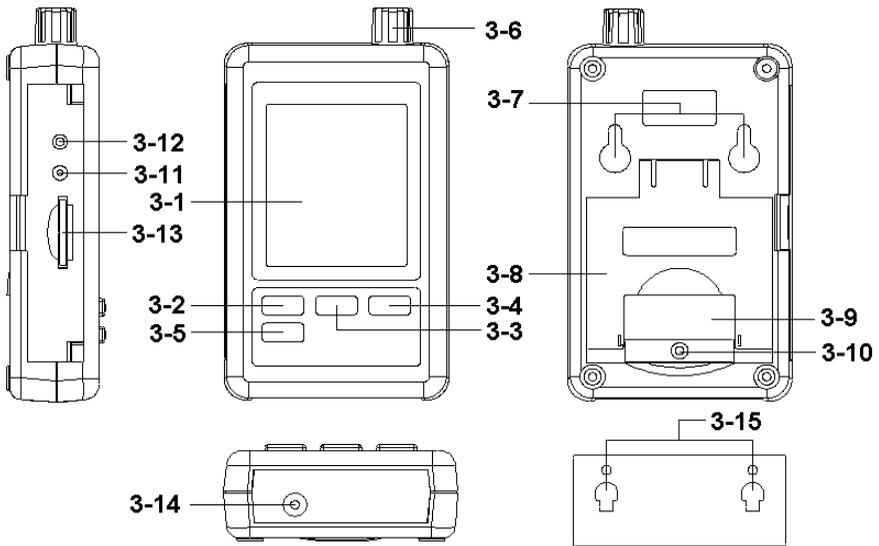

Fig. 1
- \* Loose the " Screw of the battery cover " ( 3-10, Fig. 1 ) and take away the " Battery Cover " ( 3-9, Fig. 1 ) from the meter.
- 2) The " Display " ( 3-1, Fig. 1 ) will show both the Humidity, Temperature and Barometer value that sensing from Humidity/Temp./Barometer sensor " ( 3-6, Fig. 1 ).
Prepare a " SD memory card " ( 1 GB to 16 GB, optional ), insert the SD card into the " SD card socket " ( 3-13, Fig. 1 ) with the correct direction exactly.
Press the " Logger button ( 3-2, Fig. 1 ) > 2 seconds continuously, until the Display show the indicator " DATALOGGER ", release the " Logger Button " ( 3-2, Fig. 1 ), then the measuring data along the time information will be saved into the memory circuit.
During execute the Datalogger function ( Display show the " Datalogger " indicator ), press the " Logger button " ( 3-2, Fig. 1 ) > 2 seconds continuously, until the Display indicator " DATALOGGER " is disappeared, release the " Logger Button " will finish the Datalogger function.
Press " Time button " ( 3-3, Fig. 1 ) > 2 seconds continuously, the LCD display will present the time information of Year/Month/Date, Hour/Minute/Second and the sampling value.
- 1) After execute the Data Logger function, take away the SD card out from the " SD card socket " ( 3-13, Fig. 1 ).